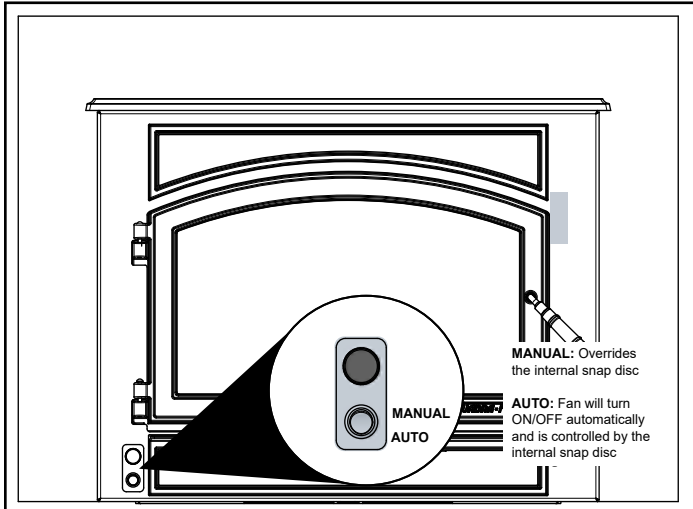

Figure 2.5
1. The blower will turn on/off automatically when set to **AUTO (Figure 2.5)**.